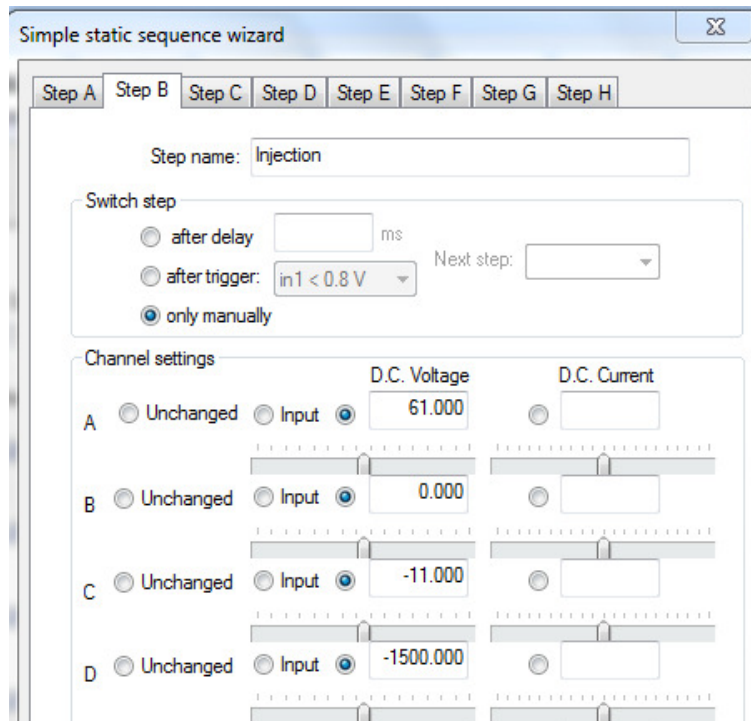

Figure 35. Example: Simple Sequence Wizard Electrokinetic Pinched Injection on a Chip: Step B–Injection.
9. Set Channels A-D to regulate D.C. voltages, according to Table 3. You can either click and drag the **DC Voltage** slider to set the values, or enter the values directly in the **DC Voltage** box. These settings are shown in Figure 35.